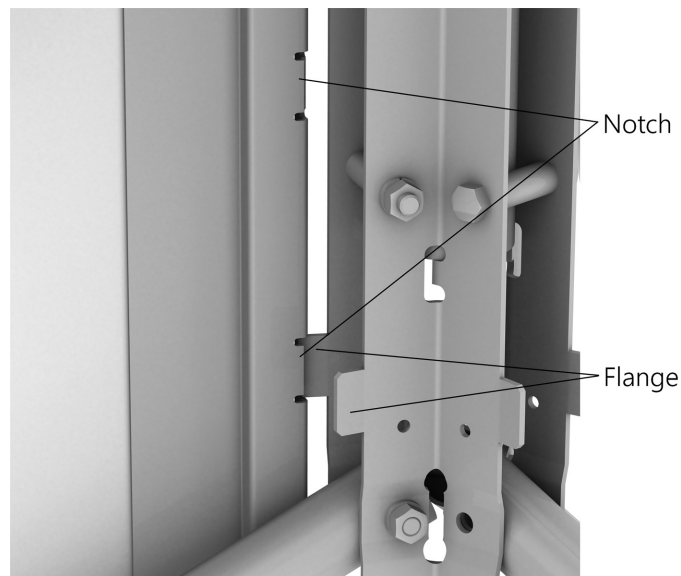

FIGURE 6-15. Flange connection (CM106B).
2. One of the notches at the lower end of the enclosure mounting bracket will now align with the flange on the lower tripod base (or the enclosure mount receiver on the CM110). Slide the enclosure mounting bracket onto the flange (see FIGURE 6-15 (p. 21)).